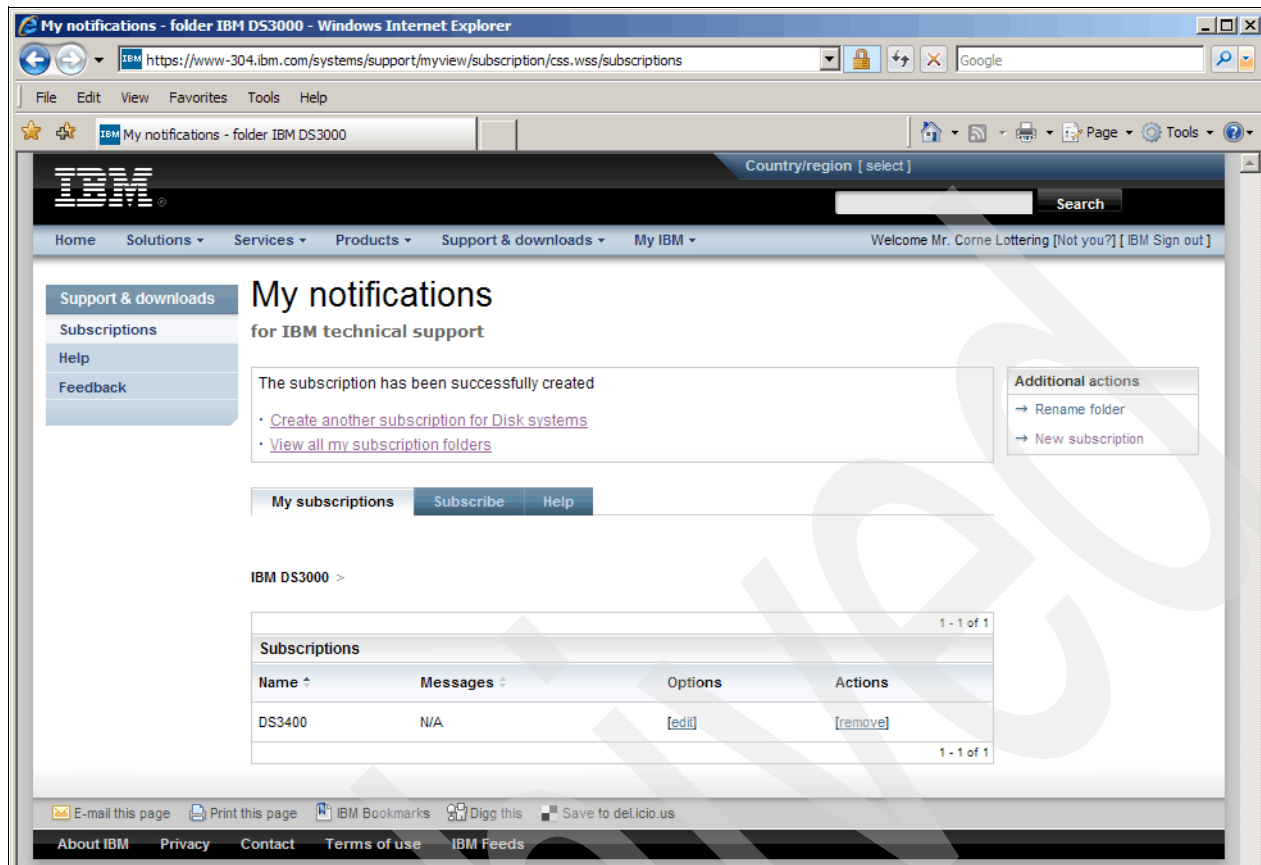

Figure B-12 IBM My notifications - Listing notification
6. The following window, shown in Figure B-12 on page 745, lists the notification setup for the DS3400 System Storage subsystem. This completes the setup of the notifications for the DS3400 System Storage subsystem. You can repeat the above steps to add additional DS3000 System Storage products to your notification list.